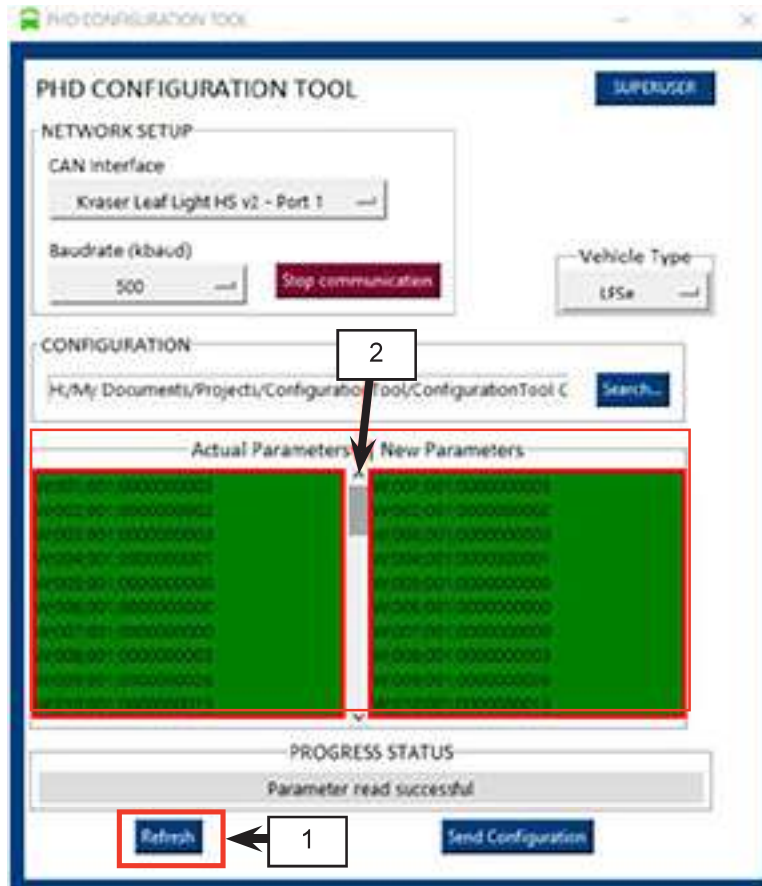

Figure 20 - Refresh and Validation of PHD Screen Parameters Files
- 1.34. Click the **Refresh** (1) button and confirm that the correct parameters have been downloaded by validating that all rows in the **Actual Parameters / New Parameters** box are green (2). If any of the settings are in a red status, please contact your customer support manager. See Figure 20.